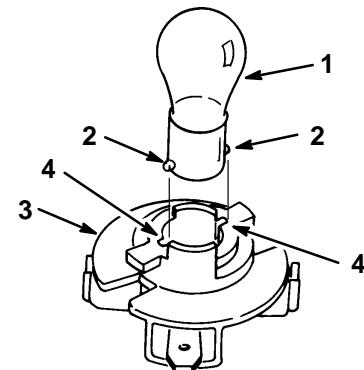

Figure 52
4. Push and rotate the bulb counterclockwise until it stops (approx. 1/4 turn) and remove the bulb from the bulb holder (Fig. 52).
1. The bulb has metal pins on the side of its base. Align the pins with the slots in the bulb holder and insert the base into the holder (Fig. 52). Push and rotate the bulb clockwise until it stops.